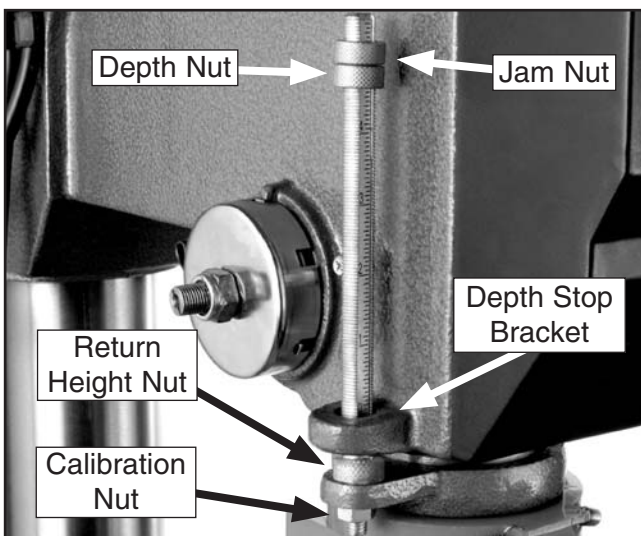

Figure 42. Depth stop assembly.
1. Loosen the calibration nut shown in **Figure 42**.